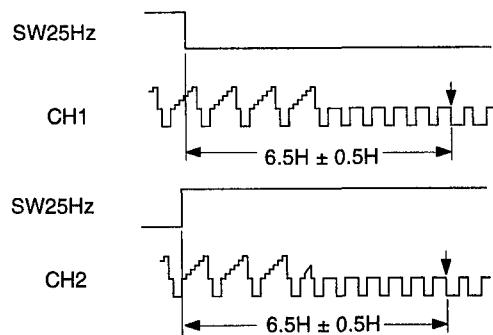

Fig. 3-104
(1) Head Switching Point Adjustment (Fig. 3-104)